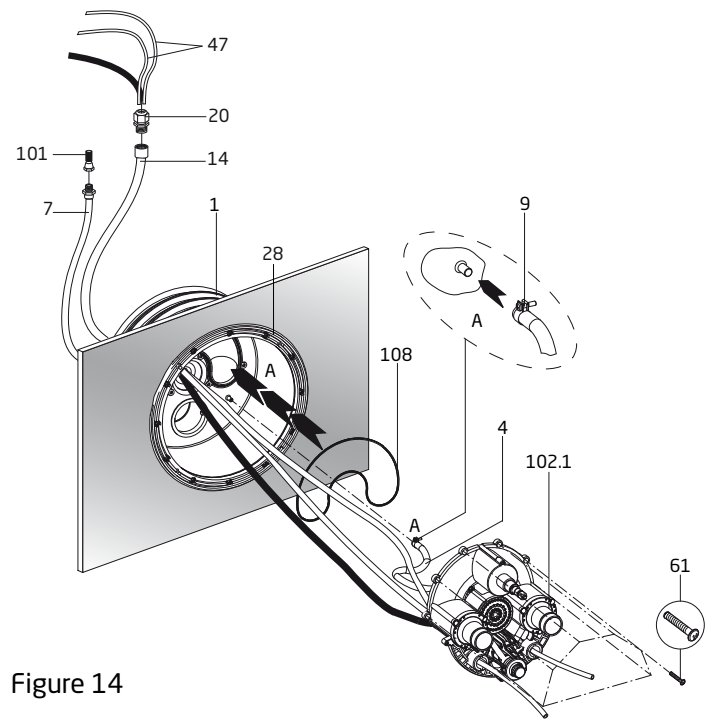

Figure 14
1. Insert the o-ring (part# 62) in the jet housing as shown in Figure 14.
2. Start the ten (10) nozzle housing tapping screws (part# 61) into the pre-assembled nozzle housing (part# 102.1). Place the nozzle housing at the main jet housing.
3. Feed both lengths of air tubing (part# 47) through the protective conduit as shown in Figure 14. Allow enough air tubing to reach the control box and air buttons. Excess can be trimmed upon installation. Mark each end with a marker. (P = Pump & L = Light.)